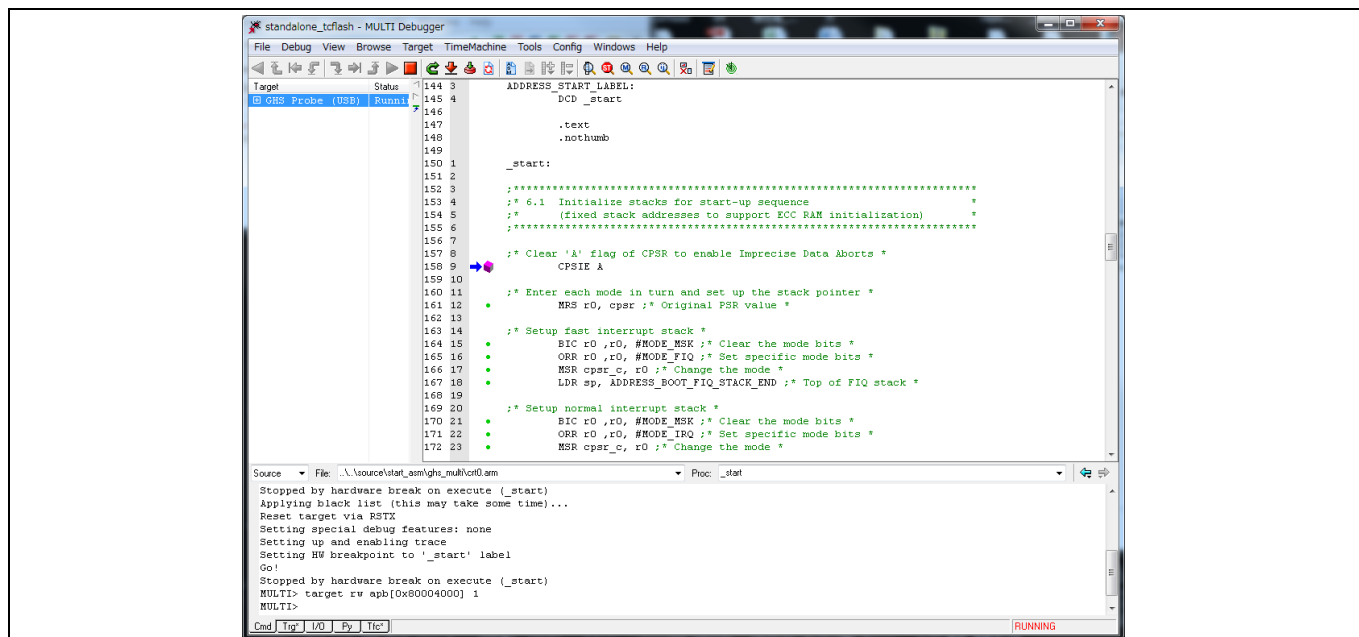

Figure 15 Program execution stopped
2. Stop the GHS MULTI to stop debugging, as shown in **Figure 15**.